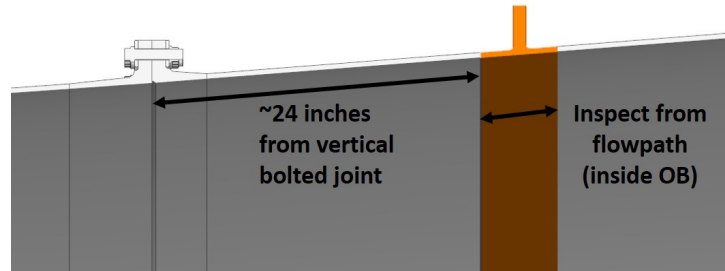

Figure 2: Inspection from the Flowpath
- Inspect the Outer Barrel from the flowpath side using red dye at the next opportunity as shown in **Figure2**. The inspection must be performed around the entire circumference of the Diffuser. If any indications found, please contact your local GE representative for further recommendations.